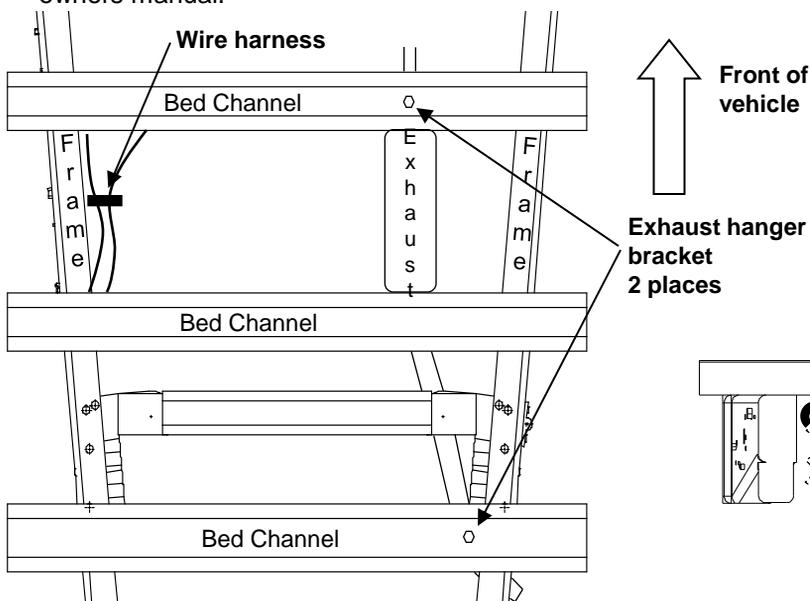

Figure 8
6. Detach chassis exhaust hanger bracket hardware from chassis bed channels at two locations using a 10mm socket wrench **(Figure 8)**. Rotate wire harness 90° clockwise **(Figures 8 and 9)**. Remove spare tire according to vehicle owners manual.